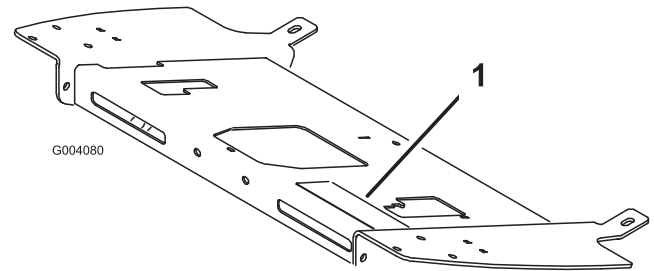

Figure 16
3. Affix the appropriate danger decal over the existing decal on the operator platform (Figure 16):